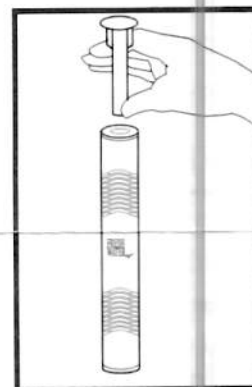

Figure 1
8. Attach the handle to the main body of the FreshWater_{Ag⁺} cartridge as shown in Figure 1.